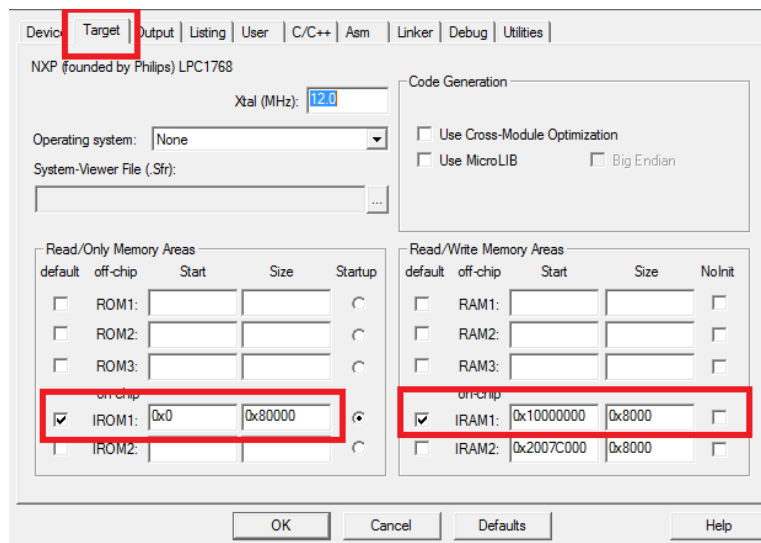

Figure 1.3: Keil IDE: Target Default Memory Map Configuration
- the default memory map is used (see figure 1.3); and